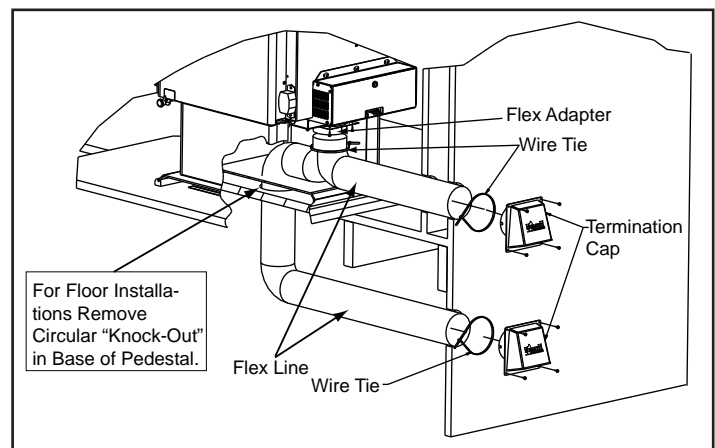
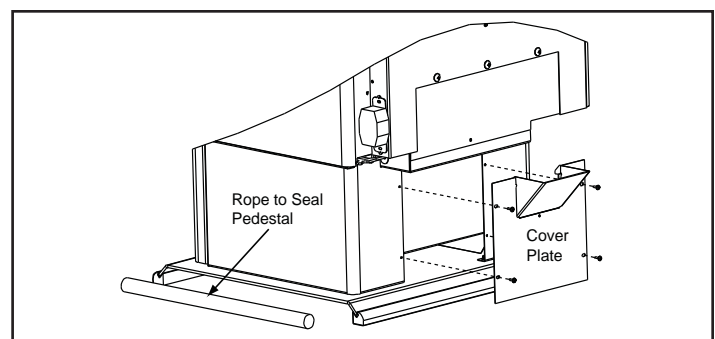

Figure 14.1 - Floor & Rear Installation
Figure 14.2 - Floor Installation Alternative
Included in SRV7033-041: Cover plate and sealing rope (see Floor Installation Alternative below, Figure 14.2)
2. Using a #2 Phillips screw driver attach the flex adapter to the stove using 4 screws. **Figure 14.1**
5. **Floor Installation Alternative:** In some instances you may not be able to install the flex pipe as shown in **Figure 14.1**. If that is the case, you will need to order SRV7033-041 which includes a cover plate and sealing rope as shown in **Figure 14.2**. The goal is to seal the pedestal so no room air can leak into the pedestal or for cold air infiltration.